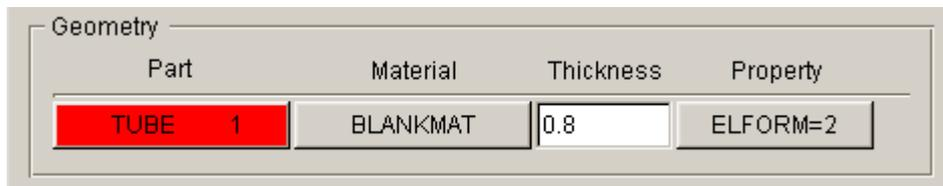

Figure 3.11 Tube definition
- Click the **Exit** button to return the tube definition interface. Now, the color of Blank tab is changed to from RED to BLACK. See Figure 3.11.